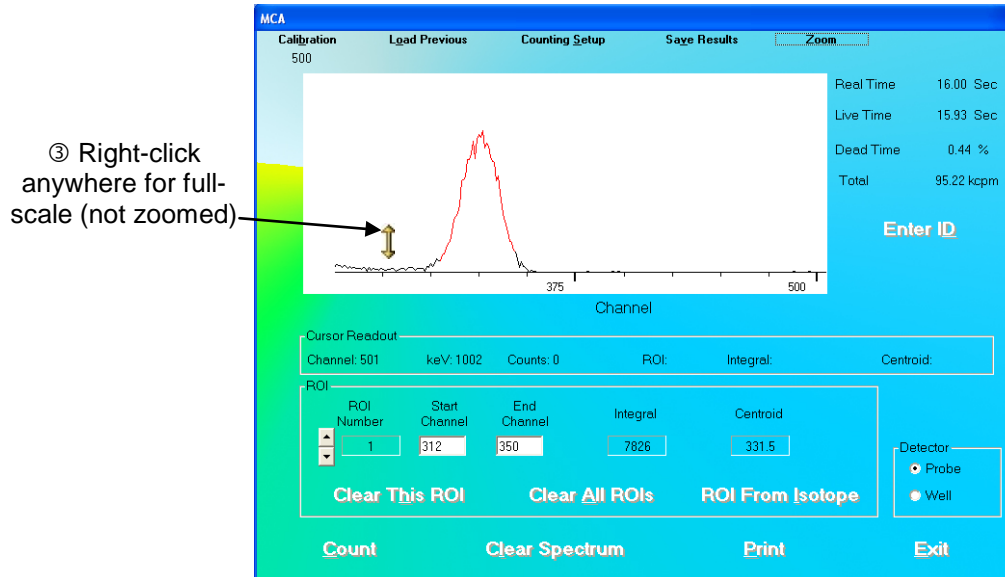

Figure 13-6
2. Right-click at the maximum channel for the zoomed view. The spectrum will appear similar to that shown in Figure 13-6.
3. To restore the horizontal scale to the default value (0 to 1023), right-click anywhere in the spectrum window as shown in Figure 13-6.